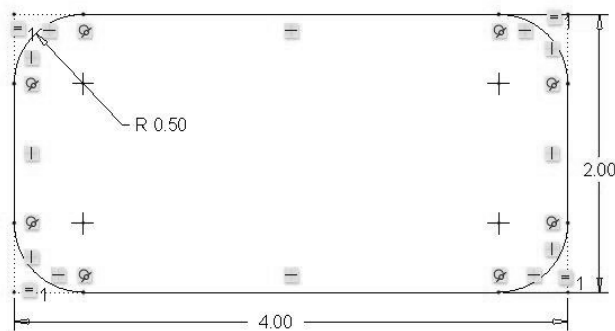

Figure 3-38 Rounded Corners
- Step 42:** Create a rectangle, then use  to create four rounded corners. Use  to make all four rounded corners the same radius. Adjust the dimensions so the rectangle is 4.00 inches long and 2.00 inches high with 0.50-inch radius corners. There should be only three dimensions present on the sketch. See Figure 3-38. Remember that    stand for horizontal, vertical, and tangent.